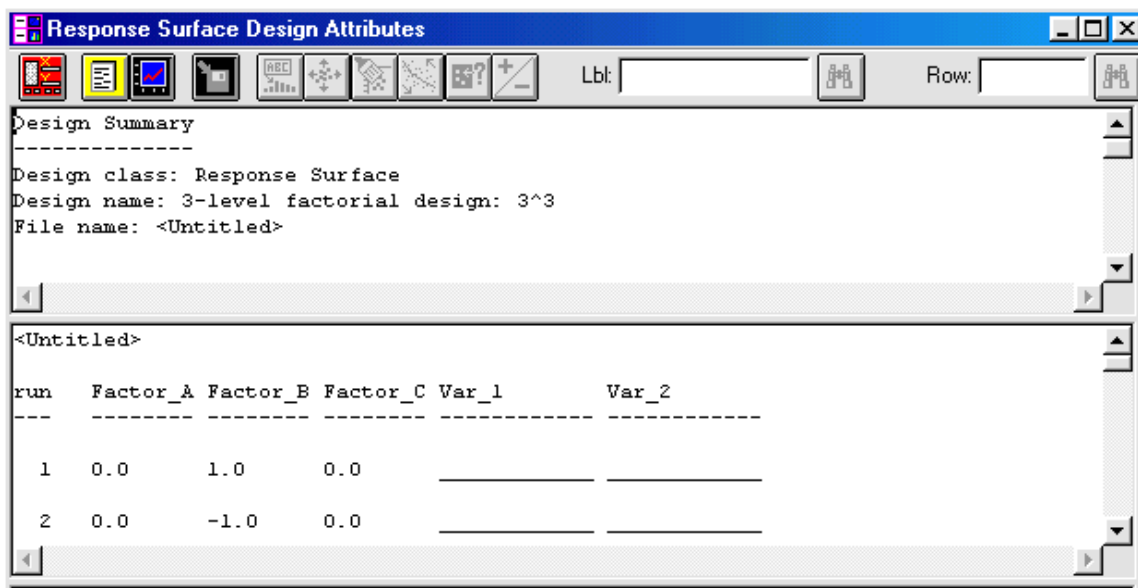

Figure 11-7. Worksheet
12. Click the Tabular Options button on the Analysis toolbar to display the Tabular Options dialog box, then select the Worksheet option and click OK to display the Worksheet in the second text pane of the Design window (see Figure 11-7).